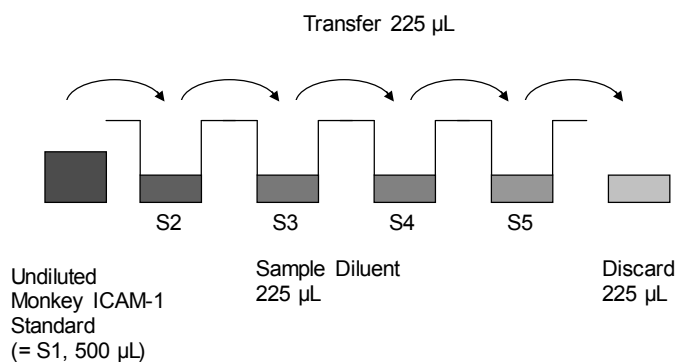

Fig. 5 Dilute standards - tubes
4. Repeat serial dilutions 3 more times thus creating the points of the standard curve (see Figure 5).